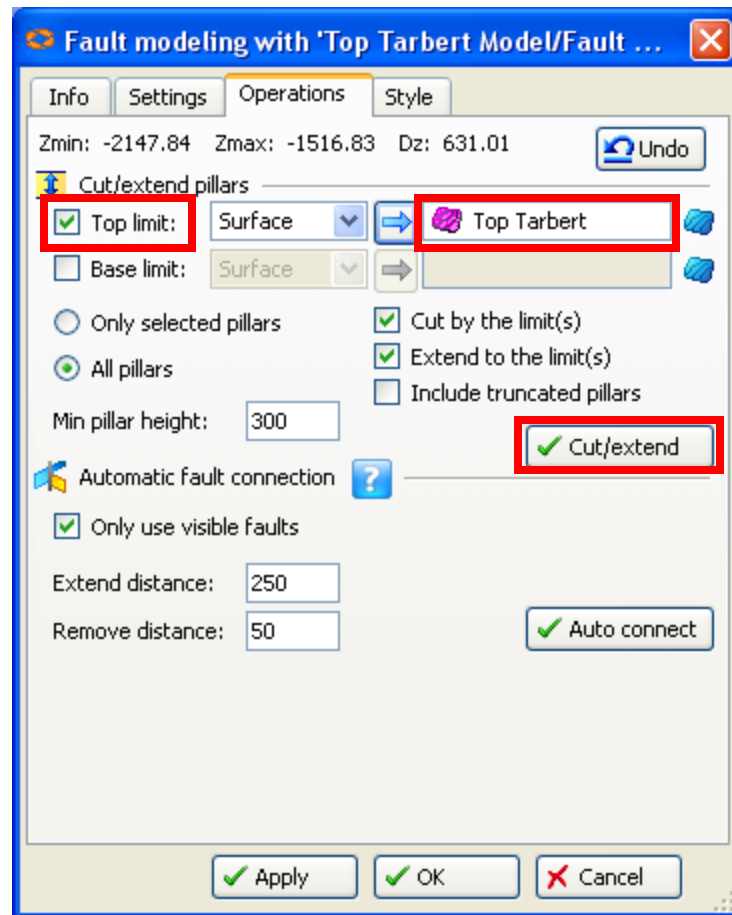

Fig. 11.40: Fault Modeling dialog box
5. Click on the **Cut/Extend** button. See Fig. 11.40.